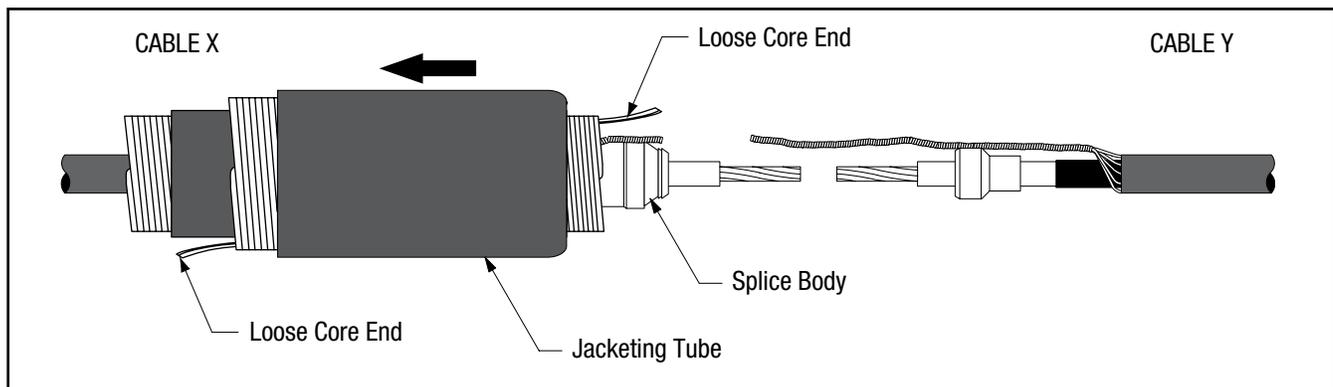

Figure 1
- 2.2 Park the cold shrink jacket assembly onto cable X (cable with the largest jacket cutback) (Figure 1).